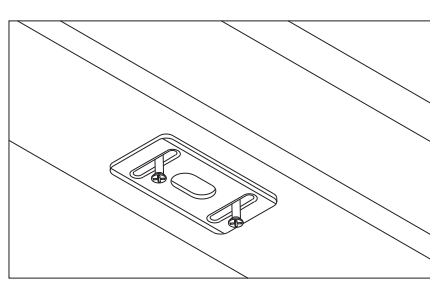

Figure 4g
After the double door is properly aligned, use the astragal bolts to mark and drill 3/8" diameter x 1-3/8" min. deep hole through the head jamb and 5/8" diameter x 1-3/8" min. deep hole through the sill, per **Figures 4g, 4h, and 4i**. Pre-drill (2) 1/16" pilot holes for the mounting screws for the head jamb. Install the retaining plate in the head jamb using the included hardware and insert the grommet into the 5/8" diameter hole in the sill.